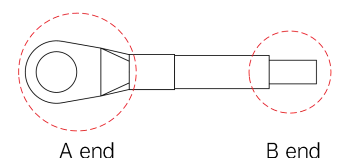

Fig. 2-5 Grounding terminal connection
- (5) Grounding: MV810-PNET01 and MV810-ECAT01 must be grounded during wiring as shown in Fig. 2-5. You need to prepare and crimp the wire by yourself.